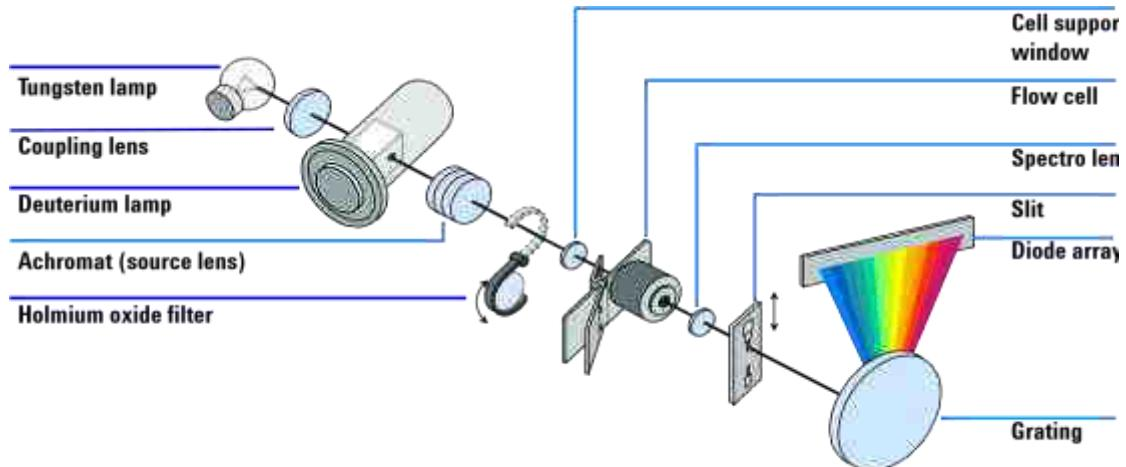

Figure 57 Optical System of the Detector
The optical system of the detector is shown in Figure 57. Its illumination source is a combination of a deuterium-arc-discharge lamp for the ultraviolet (UV) wavelength range and a tungsten lamp for the visible (VIS) and short-wave near-infrared (SWNIR) wavelength range. The image of the filament of the tungsten lamp is focused on the discharge aperture of the deuterium lamp by means of a special rear-access lamp design which allows both light sources to be optically combined and share a common axis to the source lens. The achromat (source lens) forms a single, focused beam of light through the flow cell. Each cell room and lamp are separated by a quartz window which can be cleaned or replaced. In the spectrograph, light is being dispersed onto the diode array by a holographic grating. This allows simultaneous access to all wavelength information